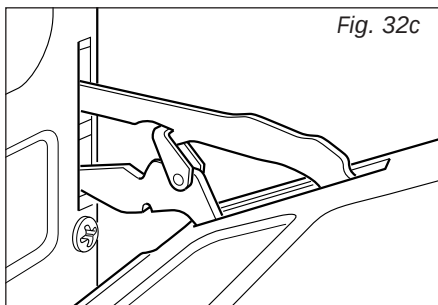

Fig. 32c
- Lift the oven door slightly. The notch on the bottom of the hinge will disengage (fig. 32c).